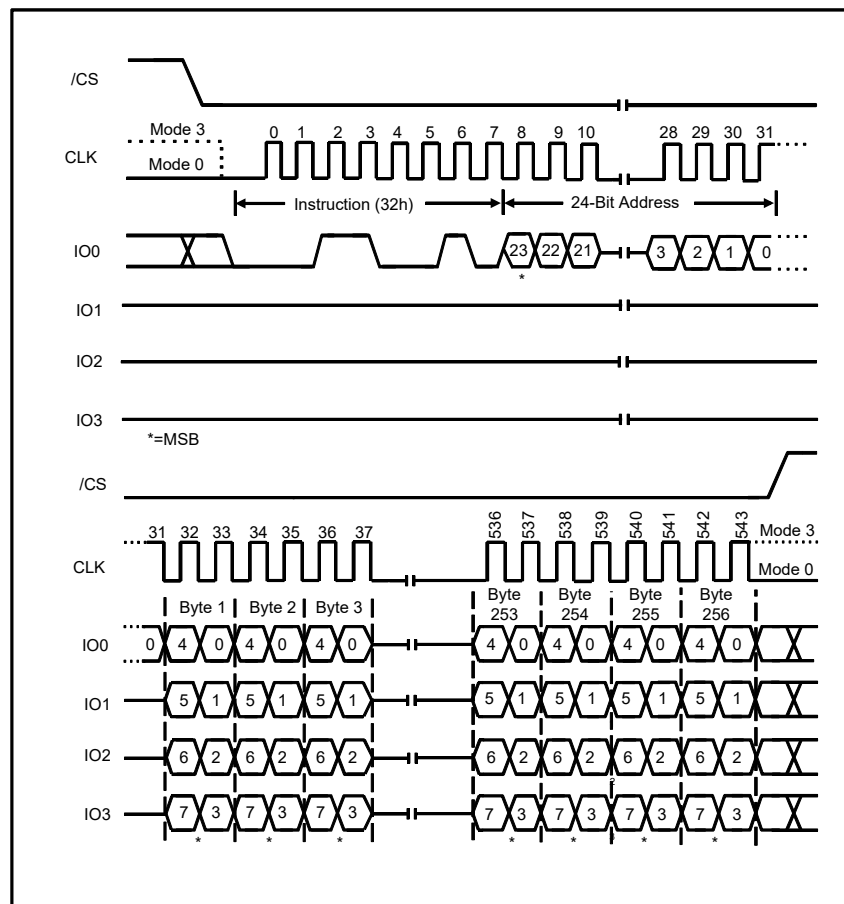

Figure 30. Quad Input Page Program Instruction (SPI Mode only)
To use Quad Input Page Program the Quad Enable (QE) bit in Status Register-2 must be set to 1. A Write Enable instruction must be executed before the device will accept the Quad Input Page Program instruction (Status Register-1, WEL=1). The instruction is initiated by driving the /CS pin low then shifting the instruction code “32h” followed by a 24/32-bit address (A23/A31-A0) and at least one data byte, into the IO pins. The /CS pin must be held low for the entire length of the instruction while data is being sent to the device. All other functions of Quad Input Page Program are identical to standard Page Program. The Quad Input Page Program instruction sequence is shown in Figure 30.